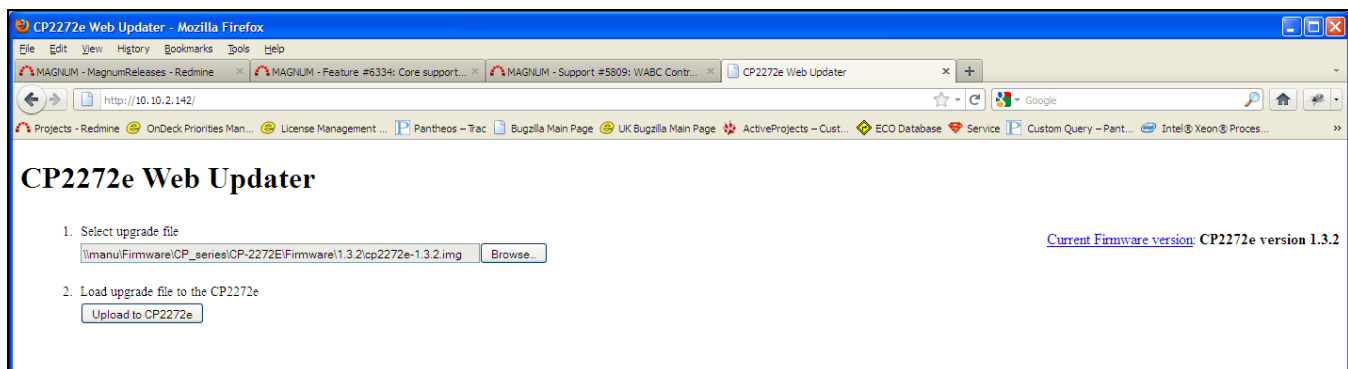

Figure 5-1: CP2272e Main Screen
1. To upgrade firmware using the web interface, open a firefox web browser and enter the IP address of the CP-2272E into the address field, and then press the *<enter>* key. The *CP-2272E Web Updater* screen will appear, as shown in Figure 5-1.